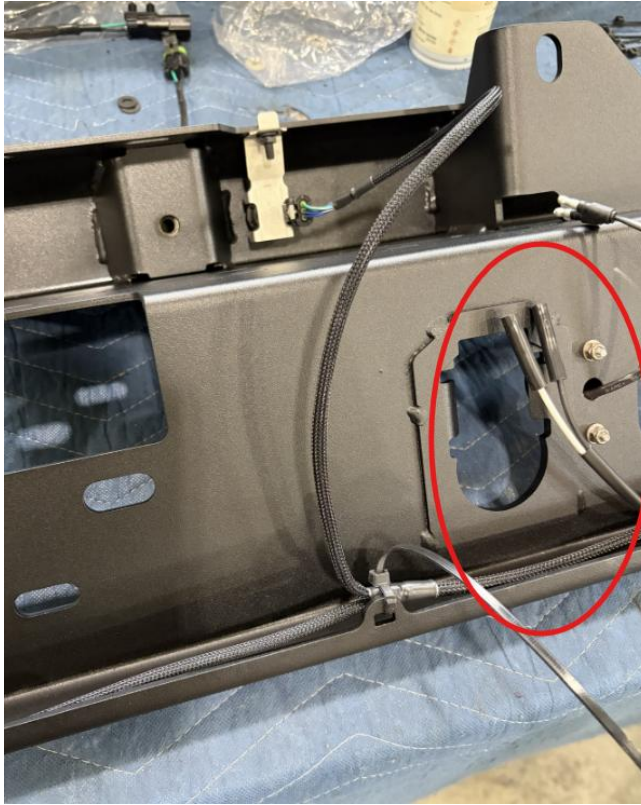
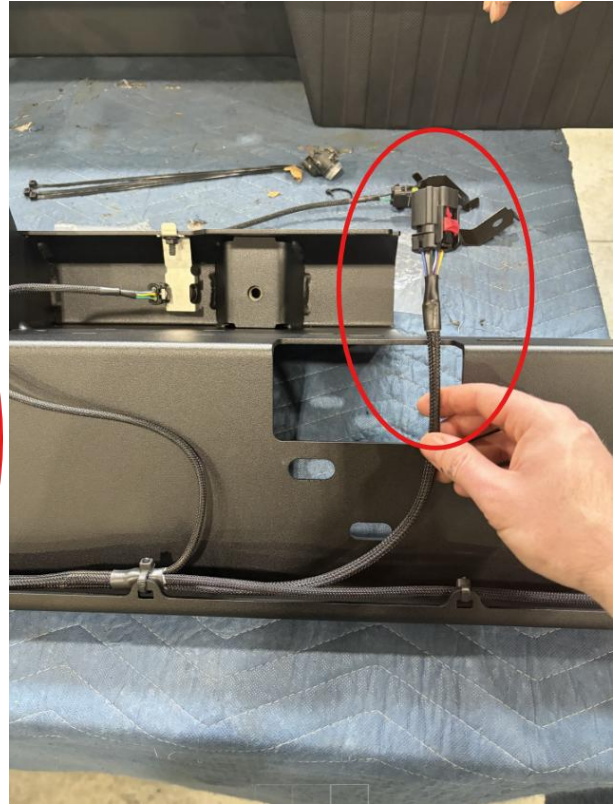

Figure 1
Figure 2
- b. Make sure to have the correct orientation before zip tying. The black and white pig tail wiring should be located near the trailer plug (Fig 1). The connector for the rear parking sensor wiring should be located on the RH side of the weldment (Fig 2).